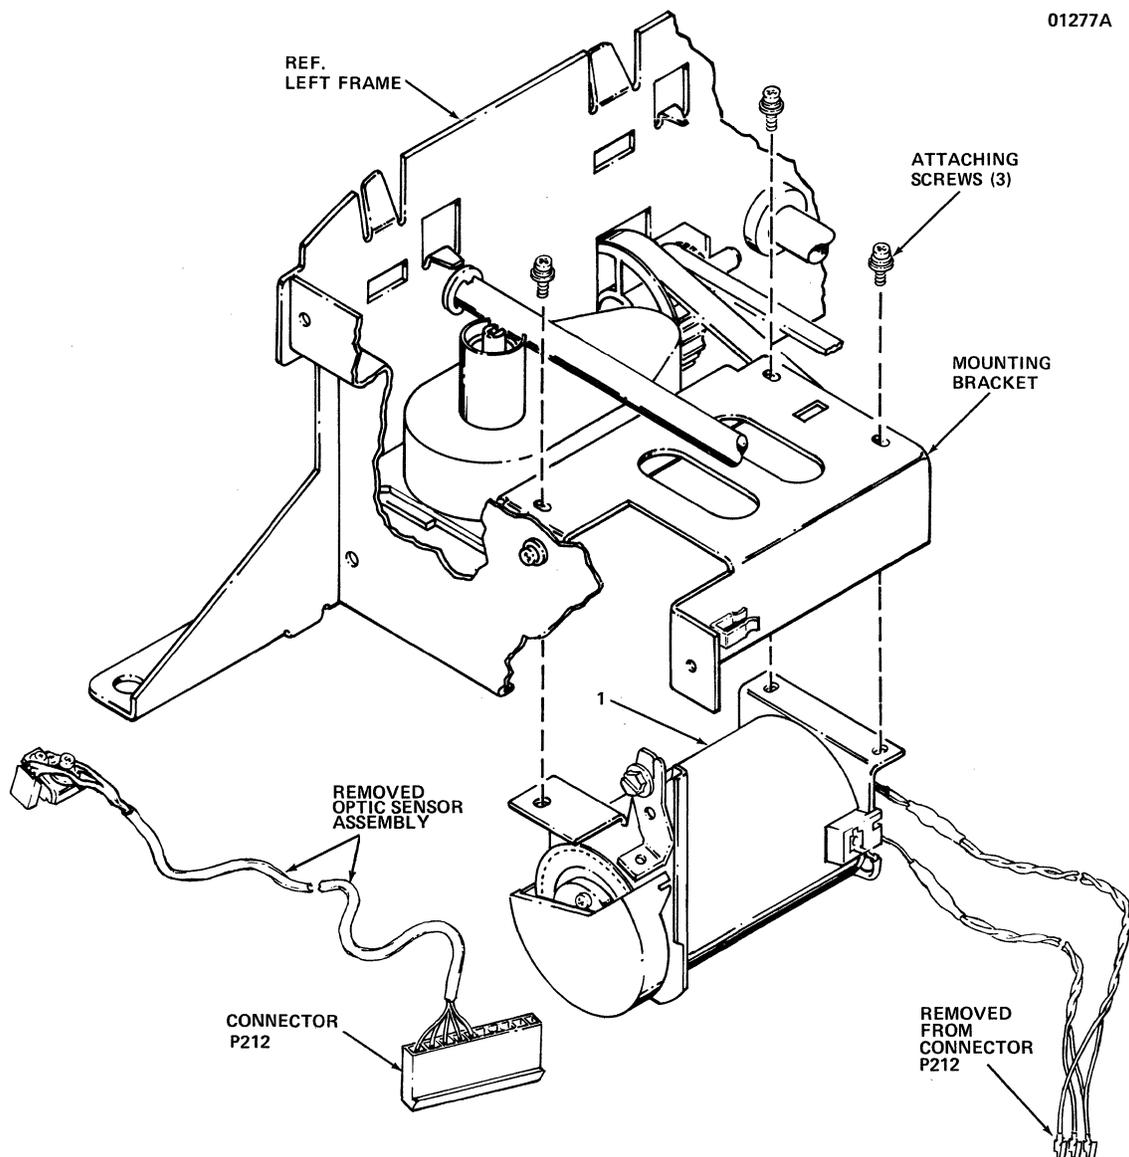

Figure 5-11 Removal/Replacement, Carriage Drive Motor
The carriage drive motor, item 1 of Figure 5-11, is attached to a motor mounting bracket and is removed using a Phillips head screwdriver. To remove the carriage drive motor, refer to Figure 5-11 and perform the following steps: